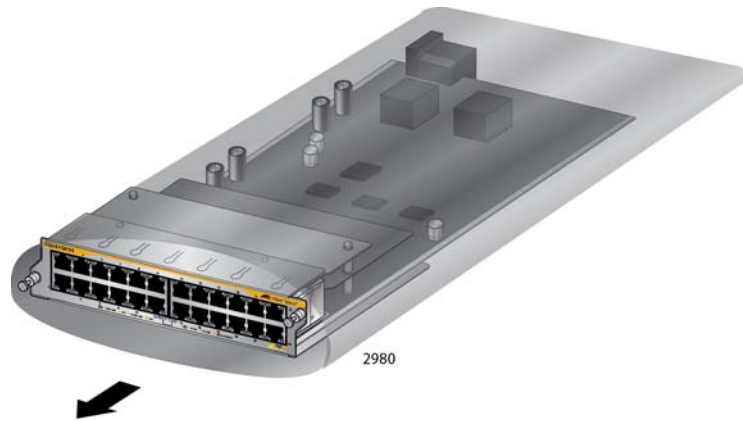

Figure 72. Removing an Ethernet Line Card from the Anti-static Bag
3. Carefully remove the Ethernet line card from the anti-static bag. Refer to Figure 72 on page 117.